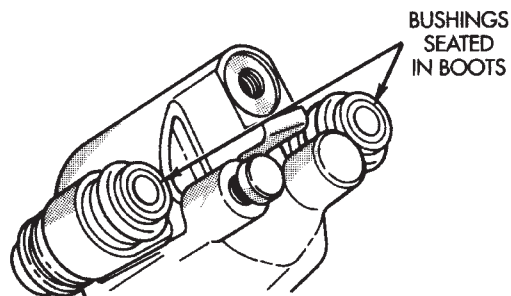

Fig. 81 Bushings Installed In Boots
- (8) Install caliper bleed screw, if removed.
- (9) Install bushing boot seals and center boot seals in the caliper.
- (10) Install bushings into the caliper. Be sure boot seal lips are seated in grooves at the ends of bushings (Fig. 81).
- (11) Install brake shoes in caliper and install caliper.